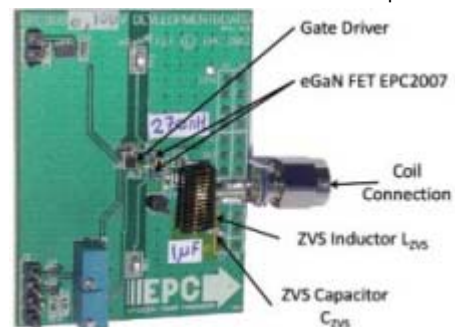

Figure 9: ZVS Class-D experimental setup
- The amplifier board is shown in figure 9 (without the coil set).